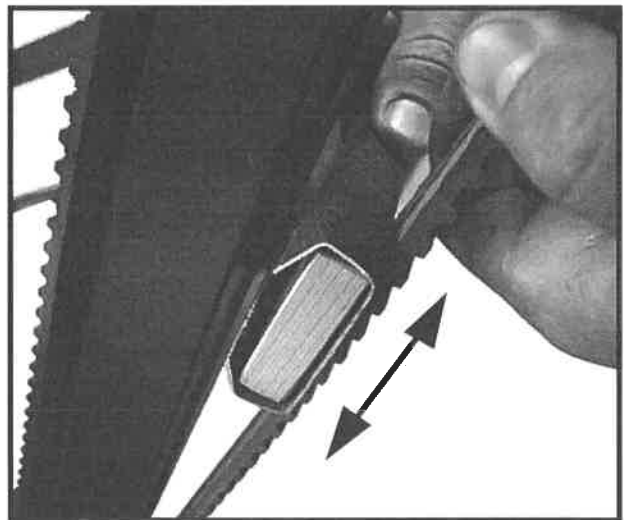

Figure 40 - Sand in Direction of Arrows
4. Place sanding block between belt and track and move the block up and down to sand the inner surface of the belt (Figure 40).